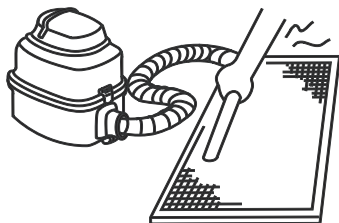

Figure 12.3
- a. The air intake side should face up when using a vacuum cleaner. (Refer to Fig.12.3)